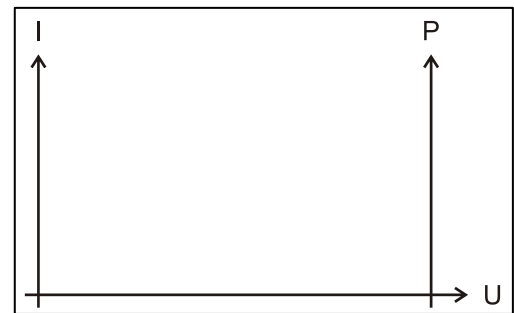

Figure 3.8: I/U/P diagram
- Draw the intensity dependence of the voltage as indicated in Figure 3.8.
- Represent the power P as a function of the voltage U in the same diagram (see Figure 3.8).